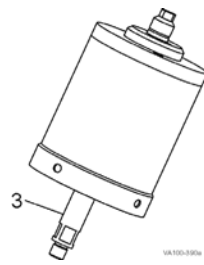

Figure 45:
2. Pull the lower stem (Figure 45, item 3) to remove the caged spring assembly from the actuator cylinder.